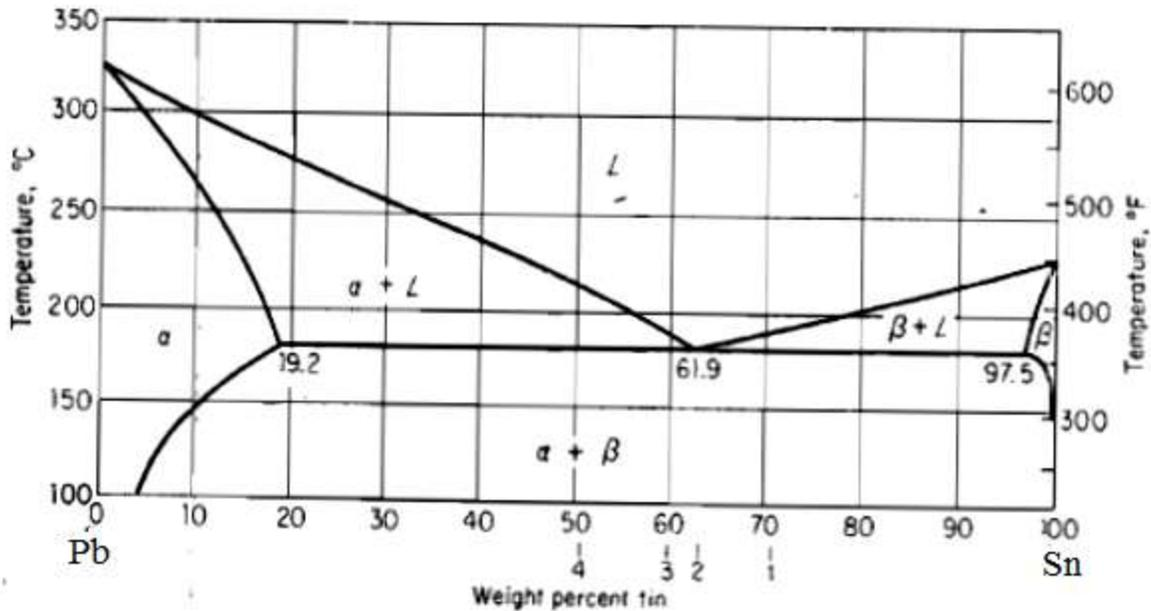

Figure 1. Phase diagram of Pb-Sn binary alloy system
3. a) Consider the phase diagram of Pb – Sn as given in Figure 1 and calculate the composition and phase fractions of eutectic alloy at eutectic temperature. 4 M
- b) Referring to Figure 1, what are the composition and phase fractions of an alloy 80%Pb -20%Sn at room temperature. 4 M